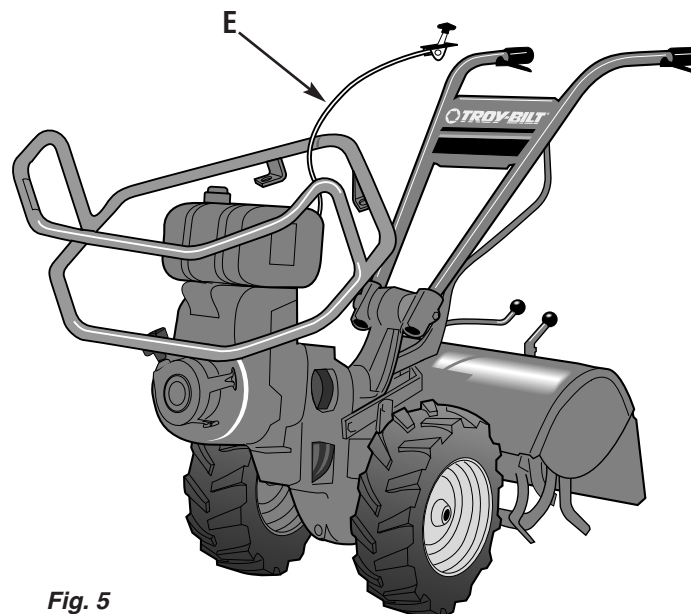

Fig. 5
- b.) Remove the cable mounting clips on the handlebar and route the throttle lever and cable up through the center of the wraparound (see E, Fig. 5).